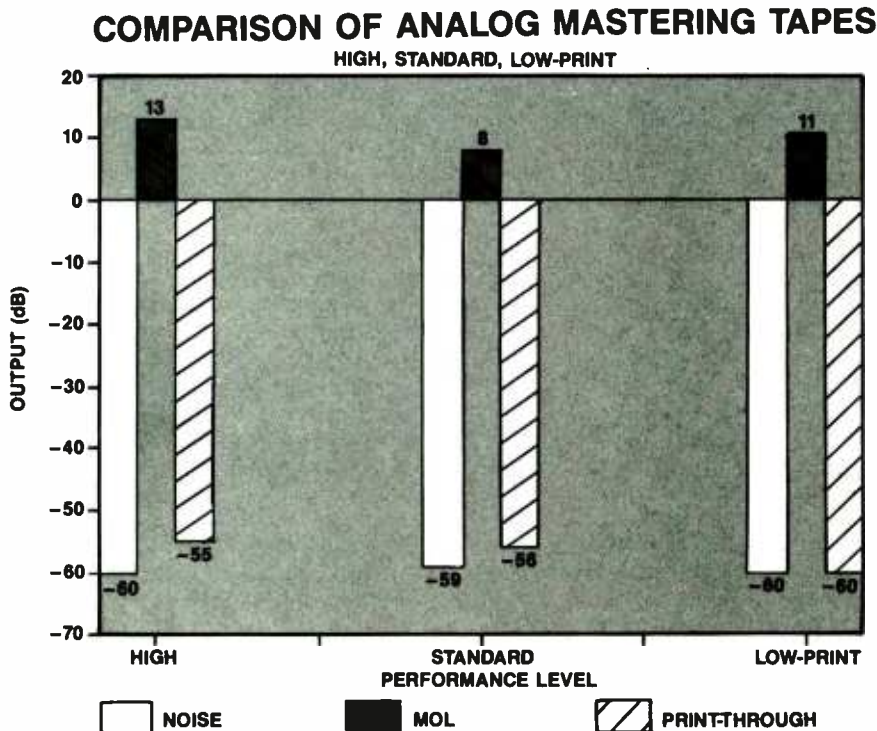

Figure 1. Comparison of analog mastering tapes.
**Low-print mastering tapes.** These tapes are designed to have very low print-through while retaining high MOL and low bias noise. Low-print tapes typically use oxide particles requiring 2.0dB to 2.5dB greater bias current and showing print-through levels in the -58dB to -61dB range. (See Figure 1.)